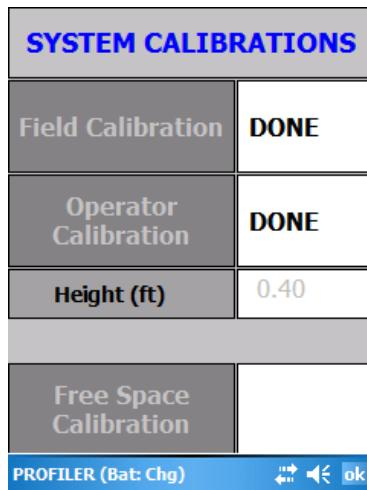

Figure 50: Completed Operator Calibration.
5. The EMP-400 will begin to calibrate for the selected Transmit frequencies. When the Operator Calibration is complete, the display will prompt **Done** (Figure 50).